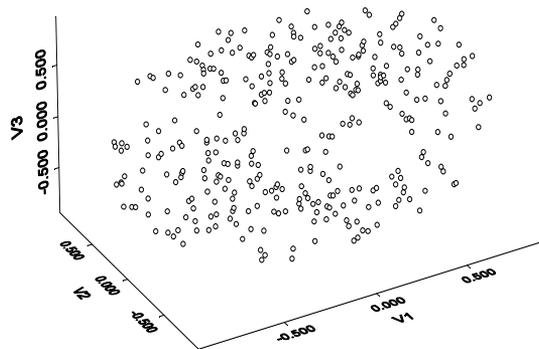

Figure 3.45: *Three-dimensional scatter plot of the sliced ball data.*
2. Click the **3D Scatter** button  on the **Plots 3D** palette. The resulting graph is displayed in Figure 3.45.